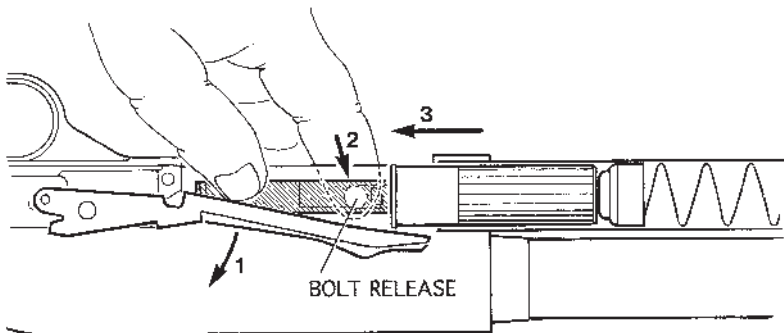

Figure 8
1. First, remove the rounds from the magazine tube. With the safety button fully rearward in the “ON” (SAFE) position, turn the firearm so that the trigger guard is facing upward (Figure 8).